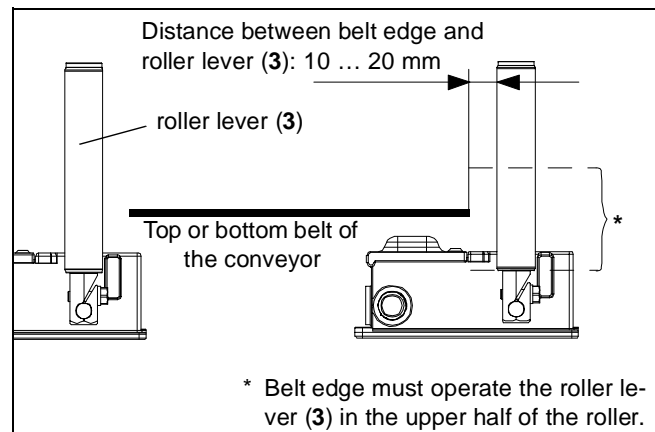

Fig. 5-1: Mounting the misalignment switch on the conveyor belt in pairs
Mount the misalignment switch in such a way, that the edge of the off-track running belt operates the roller lever (3) in the lower half of the roller. This prevents the belt from sliding over the roller lever (3) (s. fig. 5-1).
The misalignment switches type MRS 001 are installed in pairs on the top belt in front of the driving cylinder, on the bottom belt in front of the deflection cylinder, and additionally at critical locations of plants with wide axle spacing or at transfer stations (s. fig. 5-1).
In order to prevent a fast wear and tear of the roller lever (3), the roller lever (3) should be aligned approx. 10 to 20 mm in front of the belt edge (s. fig. 5-1 and 5-2).
4. Turn the roller lever (3) into the required position, and retighten the hexagonal head screw (9).